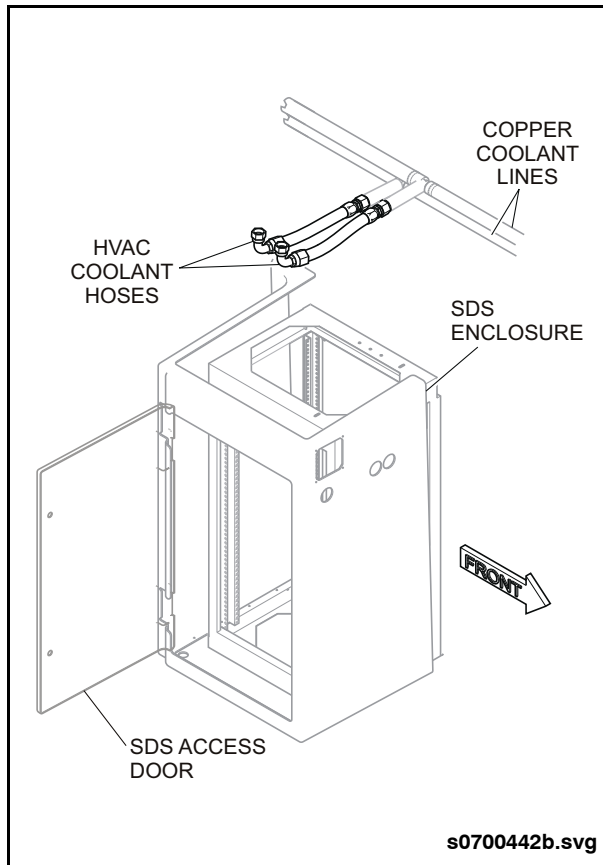

Fig. 1: HVAC Coolant Hoses
1. Open the SDS enclosure and locate the two coolant hoses above the SDS upper shelf. See “Fig. 1: HVAC Coolant Hoses” on page 2.
4. Open the SDS enclosure and locate the two coolant hoses above the SDS upper shelf. See “Fig. 1: HVAC Coolant Hoses” on page 2.